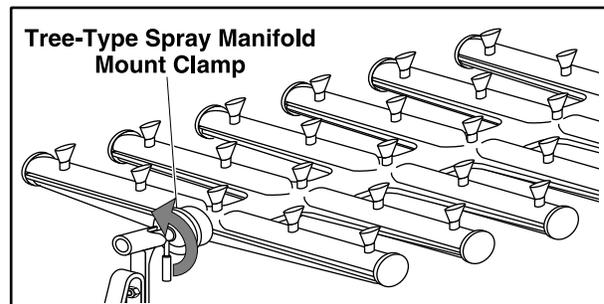

Figure 17: Tree-Type Spray Manifold Mounting Clamp Handle
- a. Rotate the Mounting Clamp handle counterclockwise to release the Spray Manifold (Figure 17).